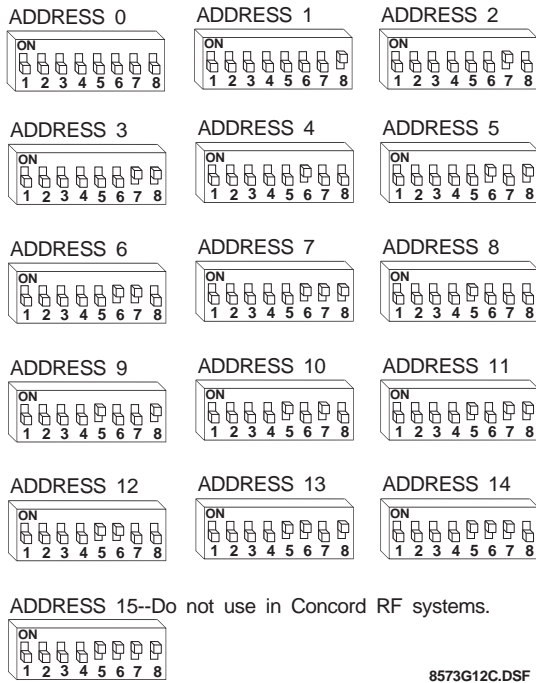

Figure 31. 8-Position DIP Switch Device Address Settings
- Hardwire Output modules have eight DIP switches, of which only 6 through 8 are used to set the address (see Figure 31).
- Hardwire Input Modules and Phone Interface/Voice modules have eight DIP switches, of which only 5 thru 8 are used to set the address (see Figure 31).
Set the address DIP switches to the desired address as shown in Figures 31, 32, and 33. Remember, each bus device must have a different address.